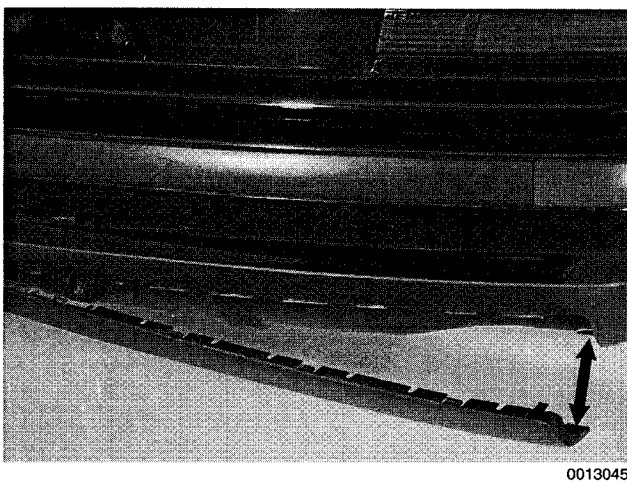

Fig. 11. Expansion rivet at corner of rear bumper lower panel (arrow). Some models use screws. Pull panel backward to disengage from bumper cover.
2. Working under bumper, remove screws or expansion rivets at corners and middle of lower bumper panel. Pull panel backward, uncoupling it from bumper cover. See Fig. 11.